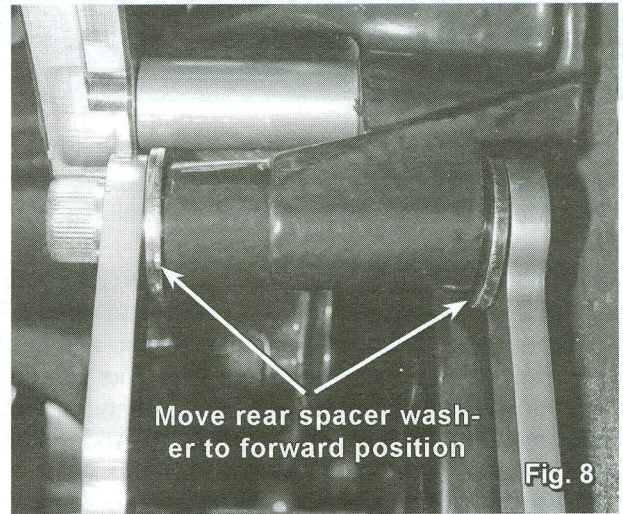
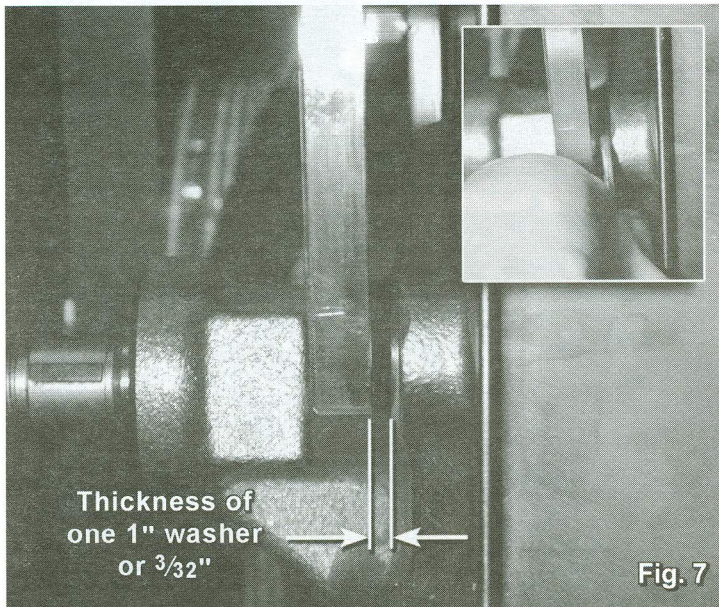

Fig. 8
Fig. 7
5. Referring to (fig. 7) check distance between upper mount bracket and power steering pump. This distance should be approximately the thickness of one (1) $\frac{3}{8}$ " x 1" spacer washer ($\frac{3}{32}$ "). If this distance is too great it may be necessary to move the pump forward. This is accomplished by moving the spacer from the lower bracket to water pump mount forward from the rear bracket position to the front bracket (fig. 8). Moving this spacer will move the pump forward approximately $\frac{3}{32}$ ".